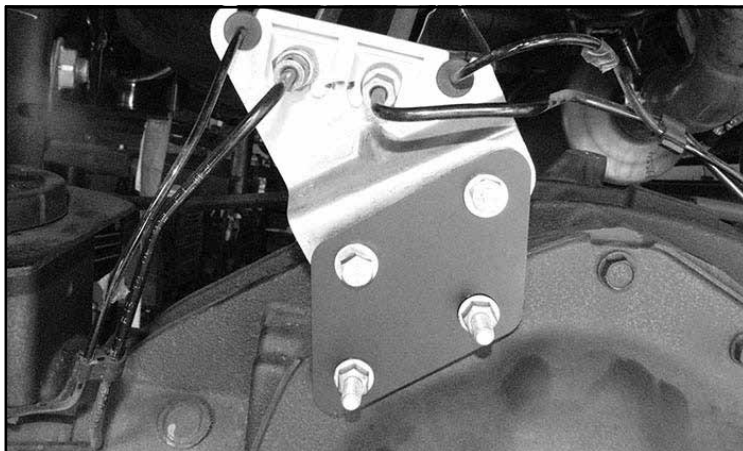

FIGURE 82 - STEP 72
72. Locate and install FT44307 (Rear brake line bracket) using the supplied 5/16" hardware from Bag 4 of the hardware kit. Torque to 29 ft-lbs. **SEE FIGURE 82**